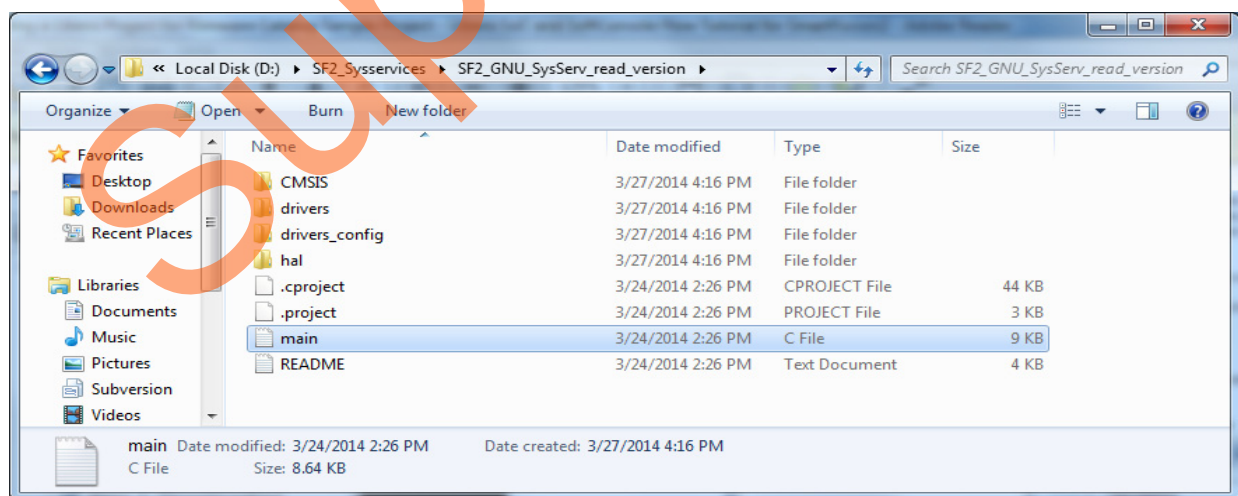

Figure 31 • Sample Project main. c File
- Go to the location where the SoftConsole sample Firmware catalog project is saved, as shown in Figure 31.